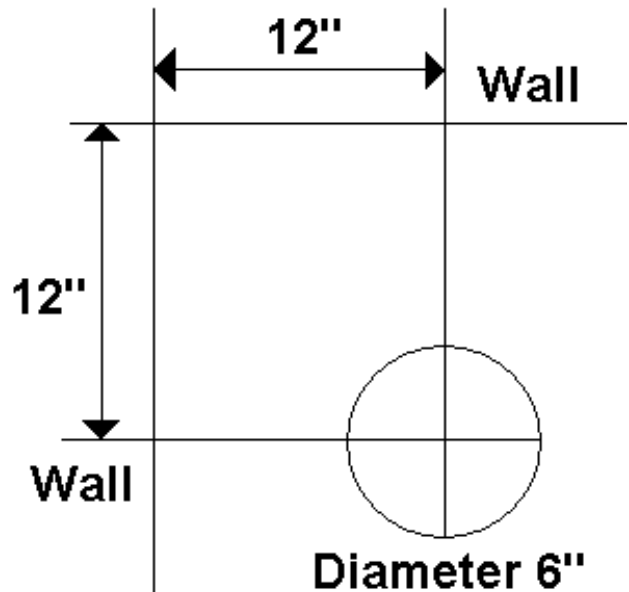

Figure 6
- Drill the drain hole in your bathroom floor. It is important to make a hole of at least 6" diameter to allow adjustment when performing final installation. The drain hole is located 12" from each wall (see Figure 6). Depending on the shower model, this measurement can vary slightly. Verify on the shower that these dimensions are accurate.